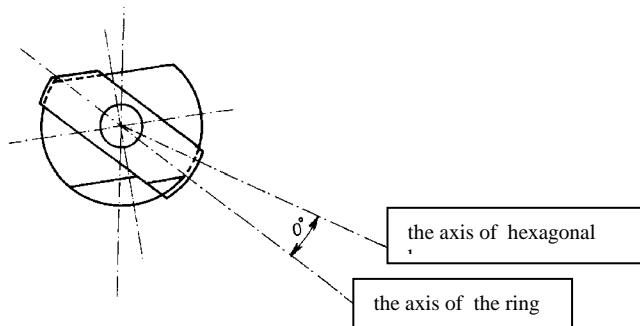

Fig. 5B The top view - the angle in horizontal plane
1. *The holder stops in the incorrect angular position with respect to the axis of the hexagonal key - incorrect angular position in horizontal plane (see Fig. 5B).*